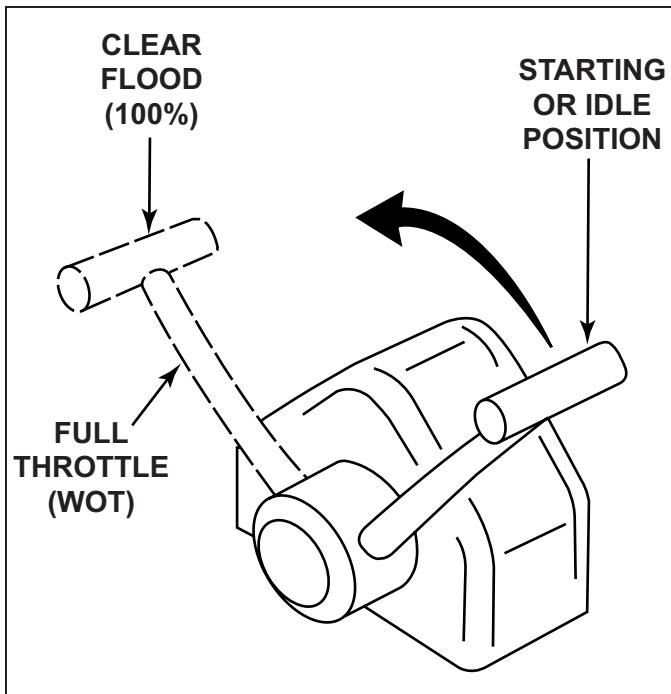

Figure 5-1 Throttle Position Setting
5. Do not pump or open the throttle when starting the engine (Figure 5-1). The ECM will automatically regulate the fuel and control desired idle speed.
7. **In the event the engine becomes flooded,** move the throttle lever to a 100% open position (Figure 5-1). At this throttle position, the ECM will command the injectors to deliver no fuel during engine cranking. When the engine starts, return the throttle lever back to the idle position.